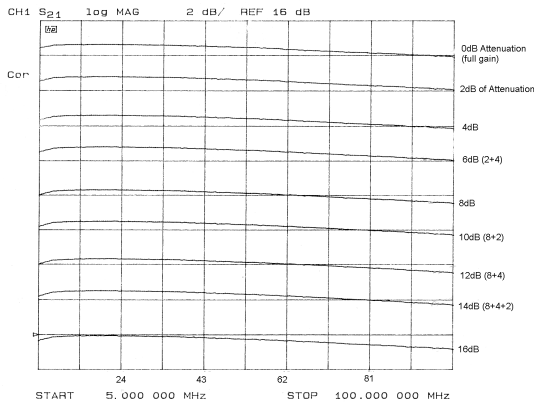

Figure 3
- For higher frequencies see figures 3 & 4.